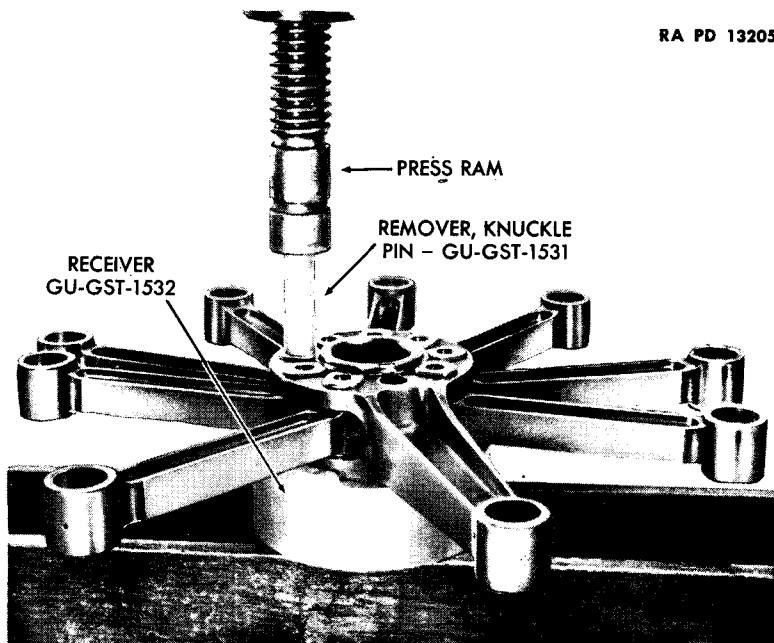

Figure 42—Removing the Knuckle Pins
62. REMOVE THE LINK RODS (figs. 42 and 43).
Place the knuckle pin and master rod receiver GU-GST-1532 on a press. Install the master rod assembly on the receiver, with the master rod in the offset in the receiver provided for the purpose, and with the flanged side of the knuckle pins up. Place the knuckle pin remover GU-GST-1531 on a knuckle pin and use the support web tool GU-GST-1556 between the link rods. Press the pin down to free the retaining ring (fig. 42). Repeat this operation on all the knuckle pins. Remove the master rod assembly and turn it over. Turn the retaining ring so that the gap in the ring is toward the master rod bushing to allow clearance in removing the ring.